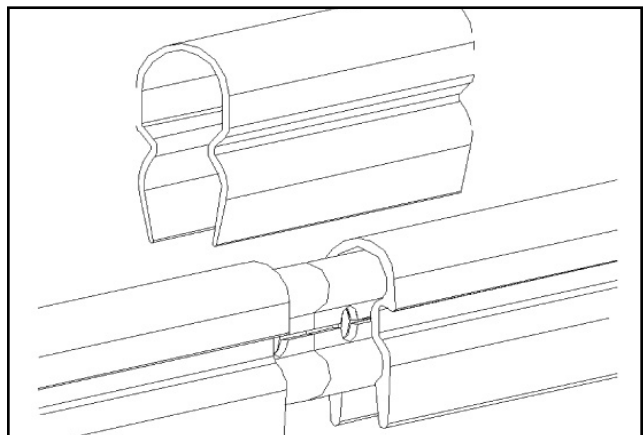

Figure 24-3
A. Snap joint cover over all 8-bar joints. See **Figure 24-3**.